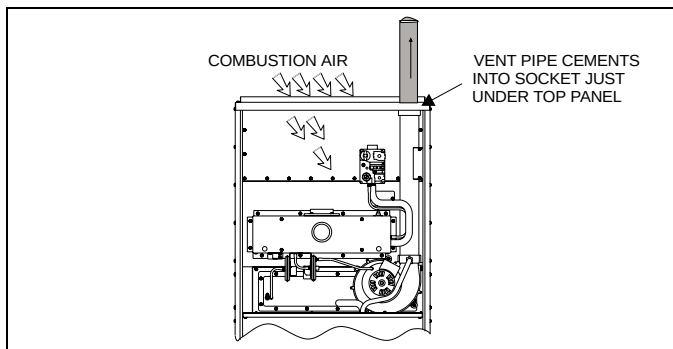

FIGURE 23: Combustion Airflow Path Through The Furnace Casing to the Burner Box
2. **AMBIENT COMBUSTION AIR:** Combustion air is supplied from the area surrounding the furnace through vents or knockouts in the furnace casing. The combustion air and the vent pipes are not terminated in the same atmospheric zone. Refer to Figure 23 for vent terminations. Refer to "AIR SOURCE FROM INSIDE THE BUILDING" and "VENT AND SUPPLY AIR SAFETY CHECK" for proper installation.
This type installation will draw the air required for combustion from within the space surrounding the appliance and from areas or rooms adjacent to the space surrounding the appliance. This may be from within the space in a non-confined location or it may be brought into the furnace area from outdoors through permanent openings or ducts. It is not piped directly into the burner box. A single, properly sized pipe from the furnace vent connector to the outdoors must be provided. For upflow models combustion air is brought into the furnace through the unit top panel opening. Do not install a pipe into the intake collar on top of the burner box. Refer to Figure 23.